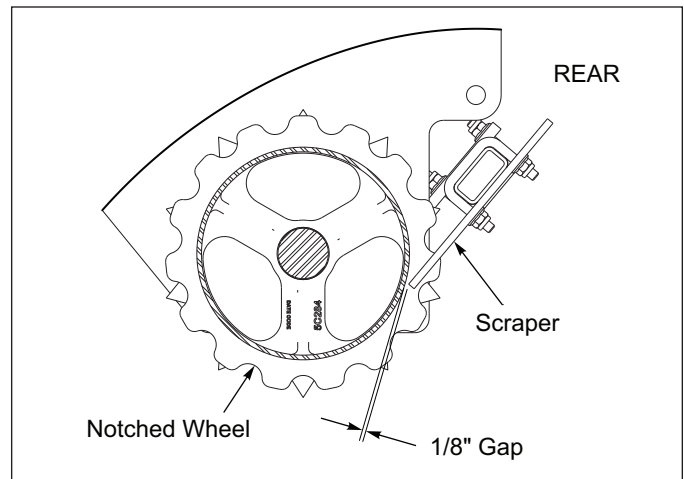

Figure 3-7: Scraper Adjustment
2. Adjust scrapers to 1/8" gap between the scraper and wheels. **See Figure 3-7.**